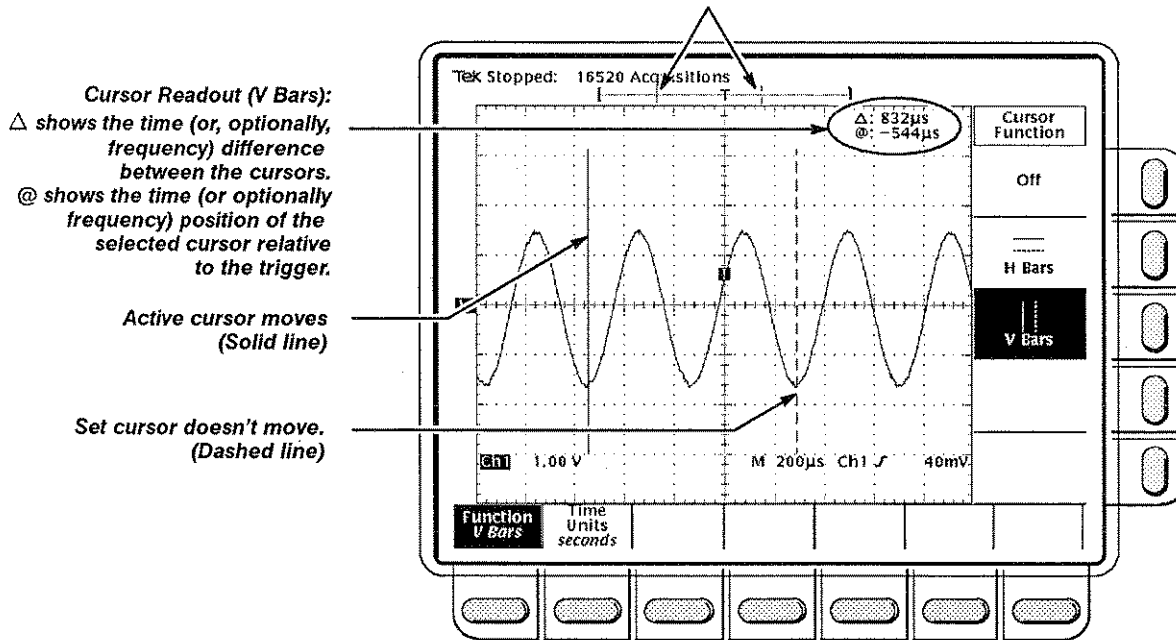

Figure 3-4: Cursor Menu and Cursor Readouts
- Step 1:** Press the **CURSOR** button to display the Cursor menu (Figure 3-4).